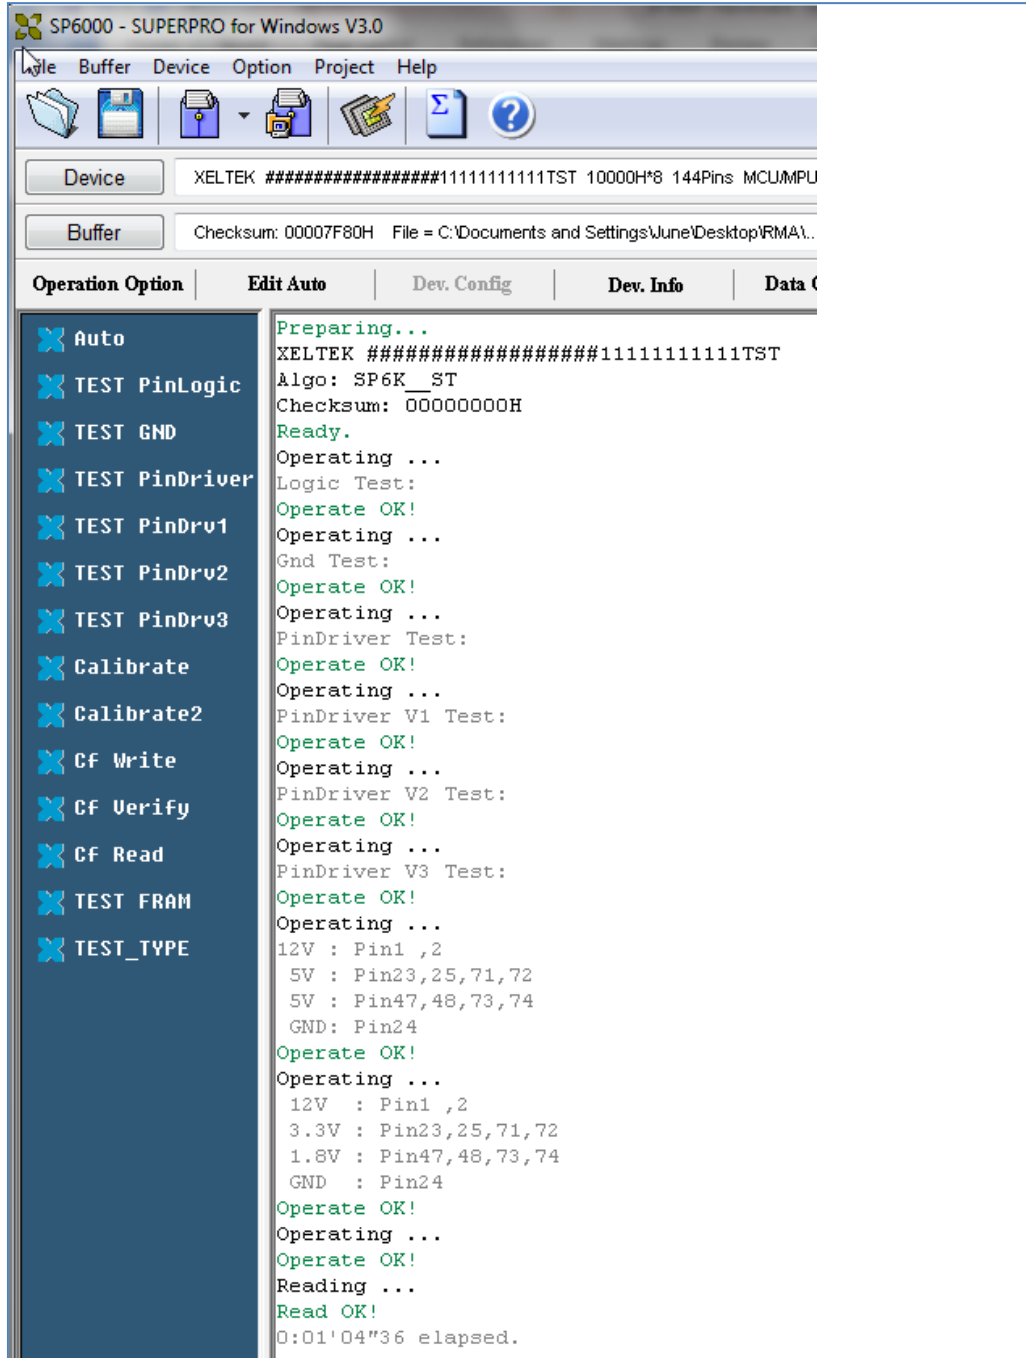

Figure 3: *Make sure there are no numbers below each Pin-Driver Test even if result shows "Operation OK!".
- 7) Running "Auto" should yield the result in Figure 3, otherwise SuperPro6100 has a problem.